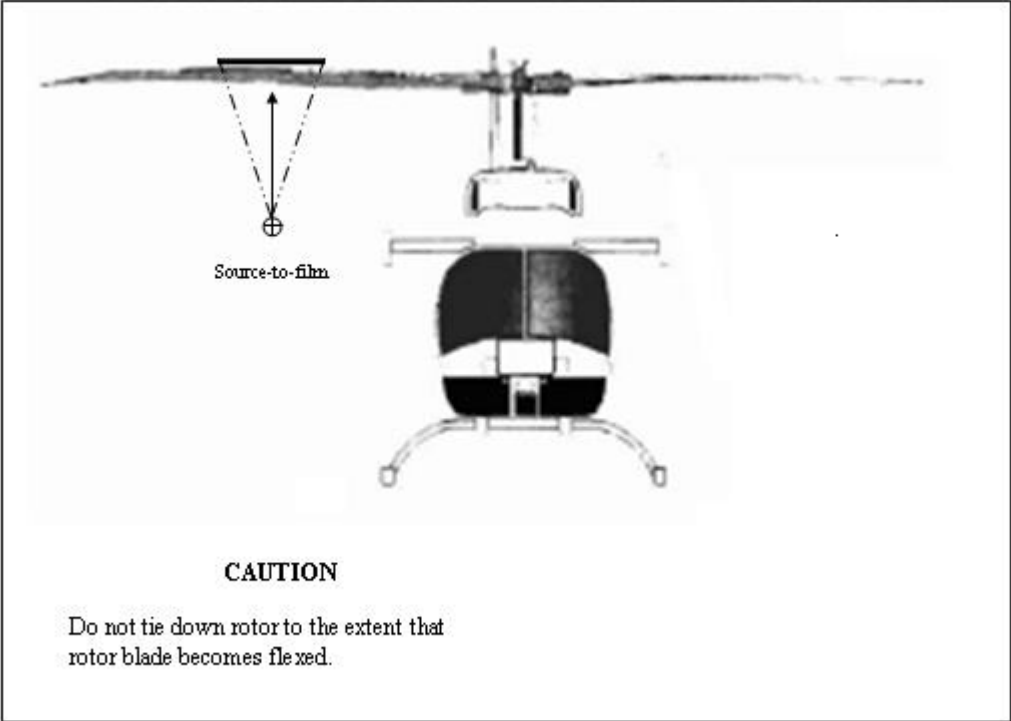

Figure 1. Radiograph with Blades Installed.
- e. Align the X-Ray beam perpendicular to the blade lower surface and center the beam 0.8 inch from the leading edge, refer to Figures 1 and 2.
- a. Rotate the blades perpendicular to the tailboom, refer to Figure 1.
- c. Due to the static droop and pitch angle of the blades, care must be taken to ensure the center of the X-Ray beam stays perpendicular to the bond line, refer to Figure 1.